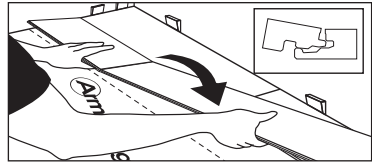

Fig. 12
3. Continue installing full boards in the second row by angling the short end of the next board in the row to lock into the previous board (Fig. 12). Position the board so that the long side of the board is close to boards in the previous row and overlapping the groove of the boards in the previous row.